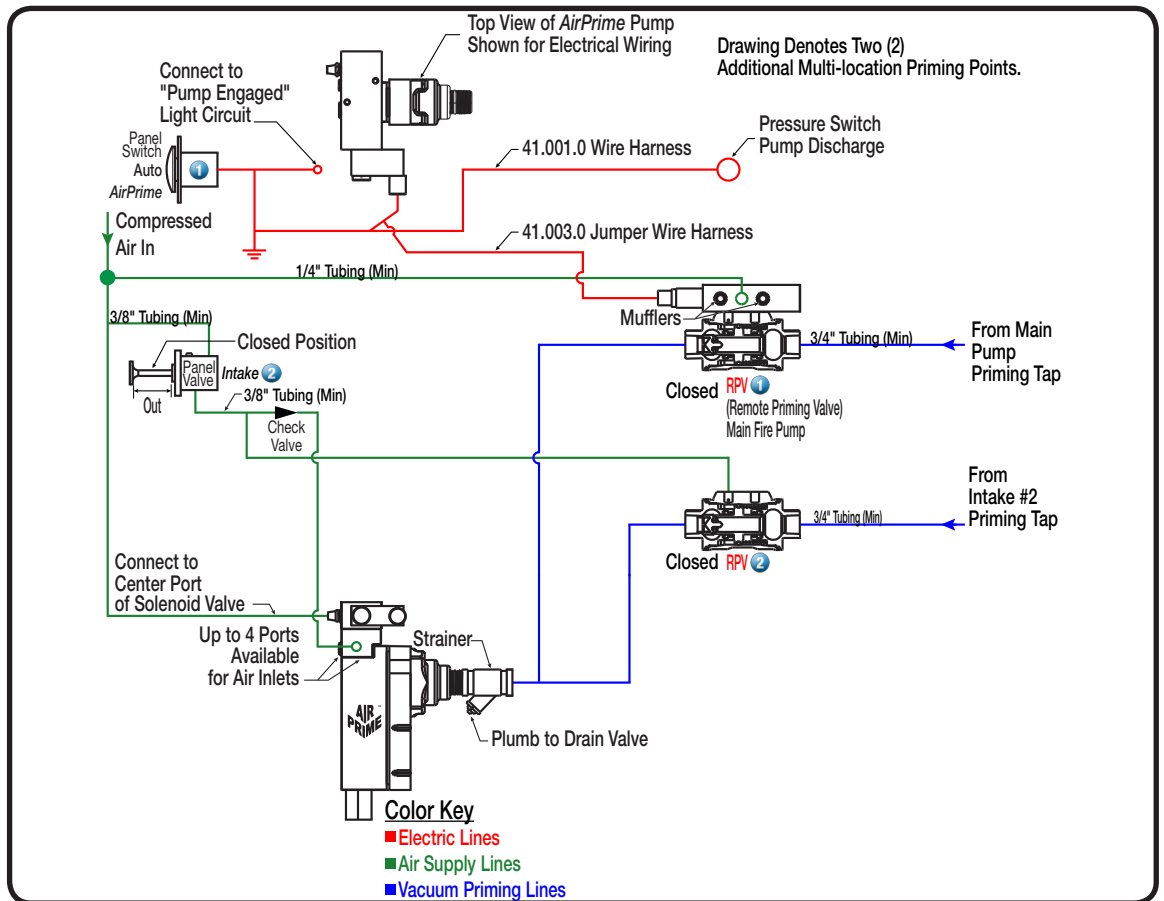

Figure 3 Multi-Location Auto AirPrime
3. Attach the new solenoid and manifold assembly (See **Figure #2**) to the top of the *AirPrime* unit using the screws provided. A blue thread-locker material should be used on screws. Be sure to include the o-ring seal provided between the manifold and *AirPrime* unit body. **Note:** This is shipped assembled and must be taken apart prior to installation on your primer. Reassemble using all contained parts. Ensure that the three (3) ports in the solenoid are above the two (2) manifold ports as shown in **Figure #9**.
4. Reconnect the air line from the PUMP panel push-button to the center port of the solenoid just added (See **Figure 3**). Connect the additional air line(s) from the other panel push-button(s) to the 1/4" NPT ports in the manifold below the solenoid. Plug any unused ports in the manifold.
5. Locate the existing Remote Priming Valve {RPV} actuated by the push-button control for the PUMP. Remove the tube fitting and airline at the top of this RPV. Attach the new solenoid provided to the top of the existing PUMP RPV. (**NOTE:** The wire end of the solenoid should be at the "arrow head" end of the RPV as shown in **Figure 3**). Use the screws provided with some blue thread locker. Reconnect the air line to the center port of this solenoid.
- 9d Plug-in the single end of the Jumper Wire Harness (See **Figure 3**) to the solenoid valve added to the top of the Pump RPV. Plug other ends of jumper to 9d (below) and to solenoid added to the top of priming unit (See **Figure 3**).